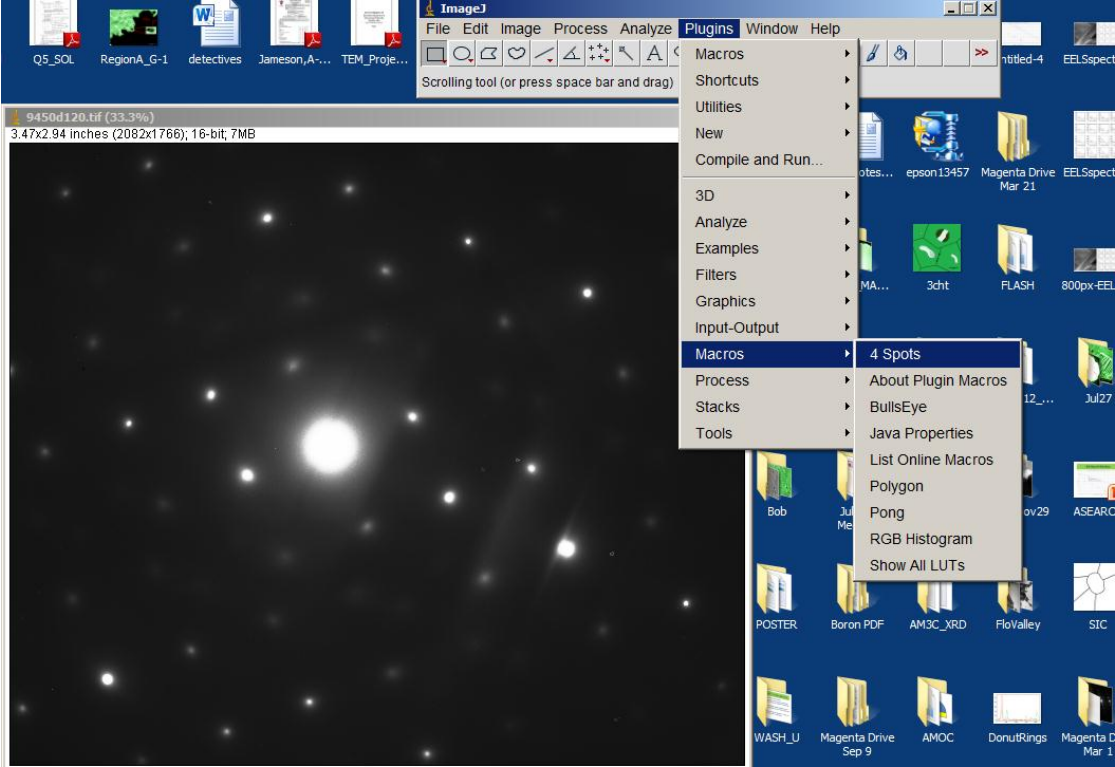

Figure 2: Plugins → Macros → 4Spots and click
2. In the ImageJ menu, go to Plugins → Macros → 4Spots and click (Figure 2).